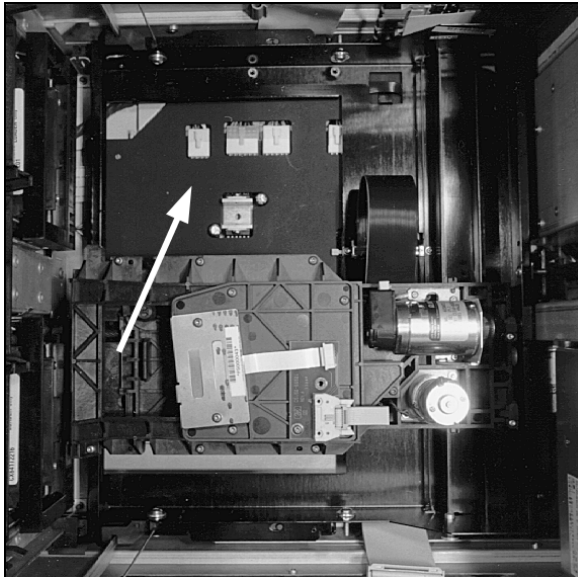

Figure 5-51. Controller PCA - Cover On
7. Remove the cover on the controller PCA (see Figure 5-51).